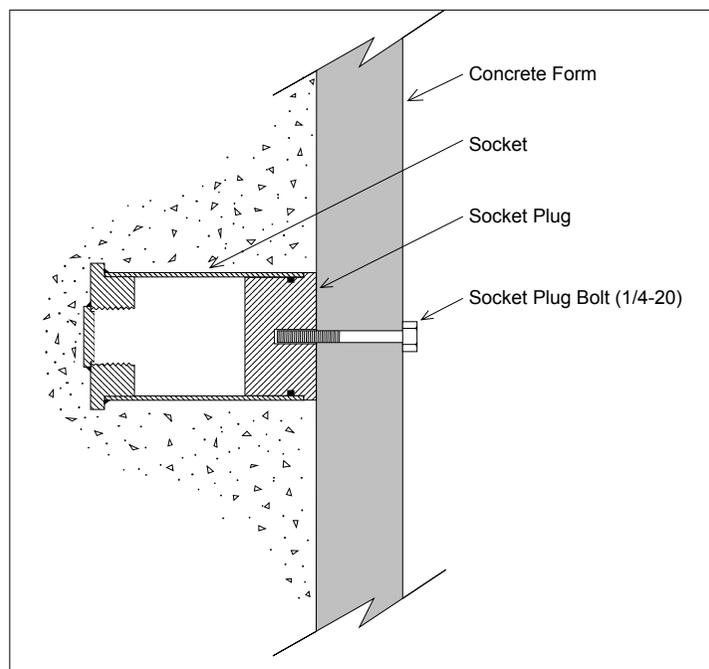

Figure 2 - Socket Installation
1. After the forms have been stripped and the socket is exposed, remove the plug. See Figure 2. Clean the socket thoroughly, then apply a light coat of grease on its surfaces.